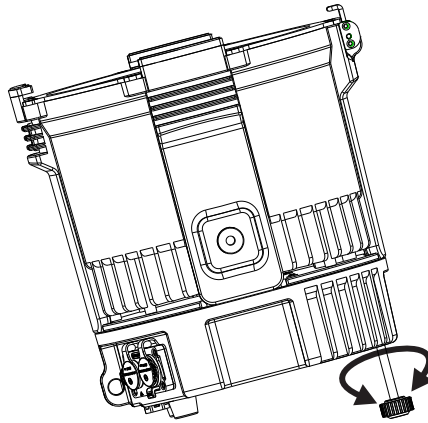

Figure 6. Free standing as uplighter
2. Stand the fixture on its back as shown in Figure 6 and adjust the angle by screwing the adjustable foot in or out.